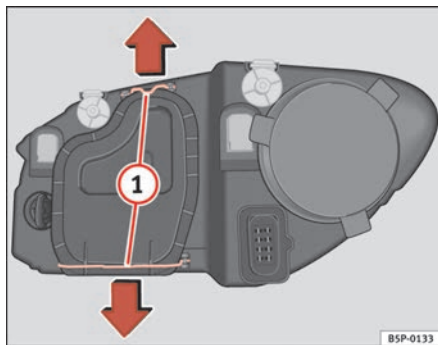

Fig. 164 Dipped head-lights
- Remove the loops ⇒ fig. 164 ① in the direction of the arrow and remove the cover.